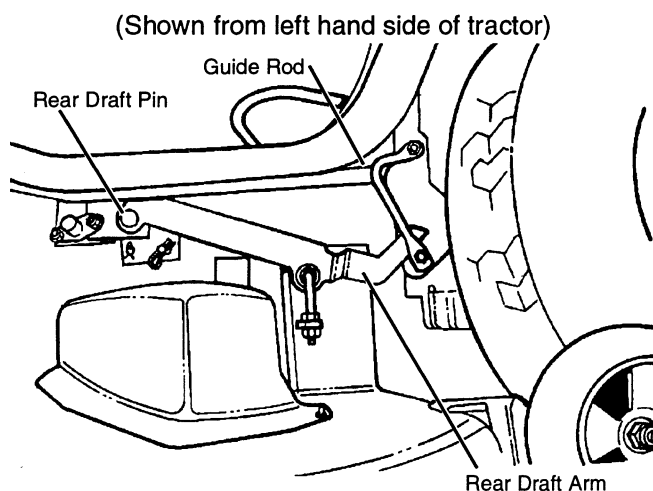

FIG. 51
- Remove spring pin clips from two rear draft pins holding rear draft brackets to mower frame. (See Fig. 51)
- Lower deck lift lever to lowest position, while centering rear draft arms in guide rods. (See Fig. 51)